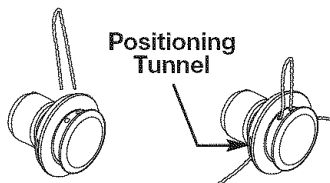

Fig. 12
4. Insert both ends of your line through the proper holes in the side of the cutting head (Fig. 12).